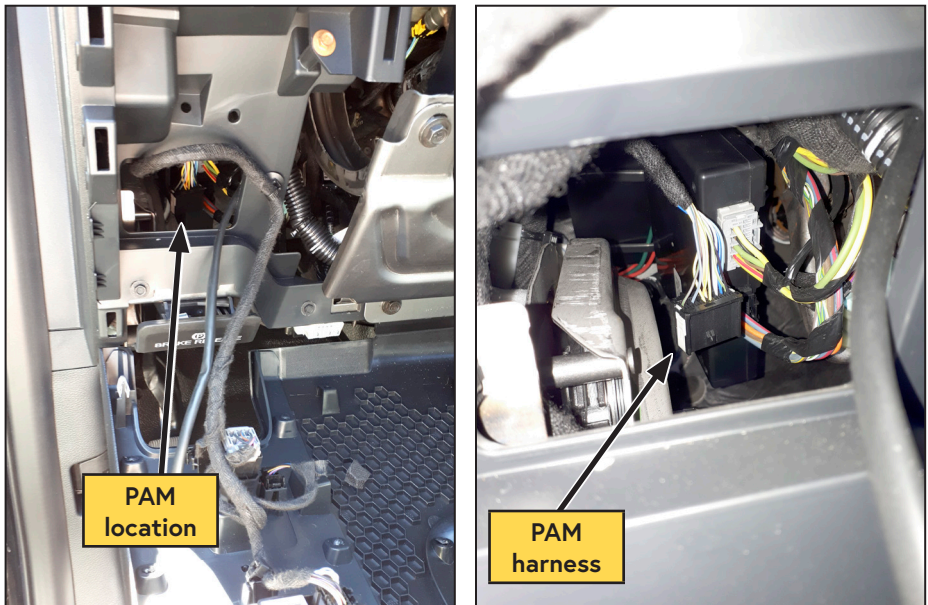

Figure 109 — Parking Assist Control Module (PAM)
- ☐ Locate the Parking Assist Control Module (PAM) (located on the driver side, under the dashboard and above the parking brake). The PAM harness will either be plugged into a blanking plug, or the PAM module (Figure 109).